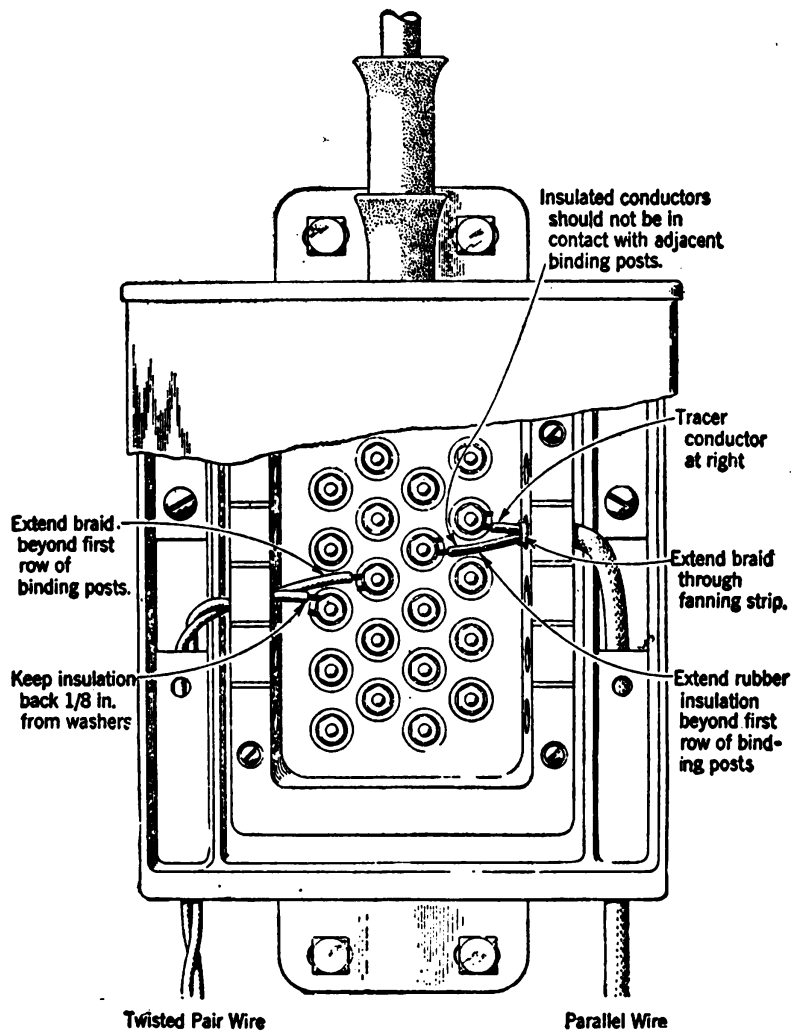

Figure 48. Wires terminated on terminal strip.
d. TERMINATING WIRE AT CABLE TERMINALS. (1) Skin and clean the ends of the conductors.
(2) Loosen upper nut and washer of binding post. (If the nut and washer are corroded, replace them with new ones.)
(3) Terminate the tracer conductor on right-hand binding post or fuse, and terminate the plain conductor on left-hand binding post or fuse. Place first conductor under lower washer and around binding post, in the direction the nut tightens. Leave a 1/8-inch separation between the insulation and the washer. (See fig. 48.)
(4) Turn the nut down in order to obtain a firm contact.
(5) Arrange conductors so that they will not be in contact with adjacent binding posts. (See fig. 48.)